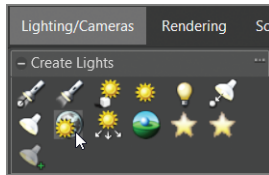

FIGURE 16.27
2. Choose Lighting/Cameras > Create Lights > Daylight System, as shown in Figure 16.27.